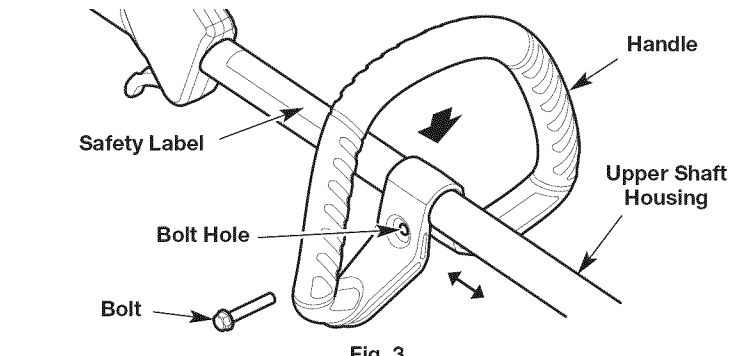

Fig. 3
1. Push the handle down onto the upper shaft housing (Fig. 3). Make sure the bolt hole faces to the right (Fig. 3).
2. Insert the bolt into the bolt hole and push it through (Fig. 3). Tighten the bolt with a flat-head screwdriver, but do not tighten the bolt completely.
3. Hold the unit in the operating position (Fig. 10) and move the handle to a comfortable location (Fig. 3). Make sure the handle is positioned beyond the end of the safety label (Fig. 3).
1. Loosen the bolt with a flat-head screwdriver (Fig. 3).
2. Hold the unit in the operating position (Fig. 10) and move the handle to a comfortable location (Fig. 3). Make sure the handle is positioned beyond the end of the safety label (Fig. 3).